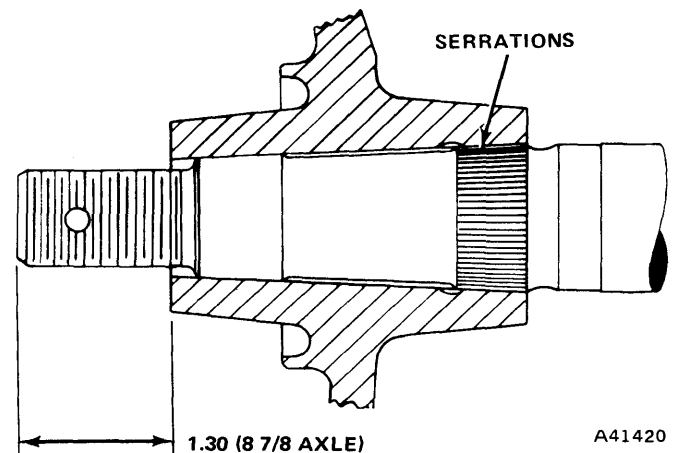

Fig. 10-18 Replacement Hub Installation Measurement (In Inches)
- (1) Align keyway in hub with axle shaft key.
- (2) Install two well-lubricated thrust washers and axle shaft nut.
- (3) Install drum, drum retaining screws, and road wheel.
- (4) Lower vehicle onto wheels. Tighten axle shaft nut until distance from hub outer face to axle shaft outer end is 1.30 inches (fig. 10-18).
- (5) Remove axle shaft nut and one thrust washer.
- (6) Install axle shaft nut and tighten to 250 foot-pounds torque. If cotter pin hole is not aligned, tighten nut to next castellation and install cotter pin. Do not loosen nut to align cotter pin hole.